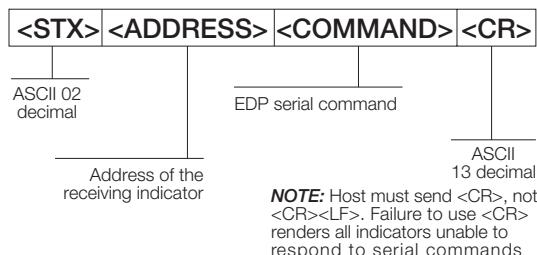

Figure 11-2. RS-485 Send Data Format
All remote commands are initiated using the data format shown in Figure 11-2:
**Example:** To send the KPRINT command from an ASCII terminal to an indicator at address 65 (decimal) on the RS-485 network, use the format shown in Figure 11-2:
- The indicator address (65) is represented by an upper case “A”.
- The carriage return (CR) character is generated by pressing the ENTER key.